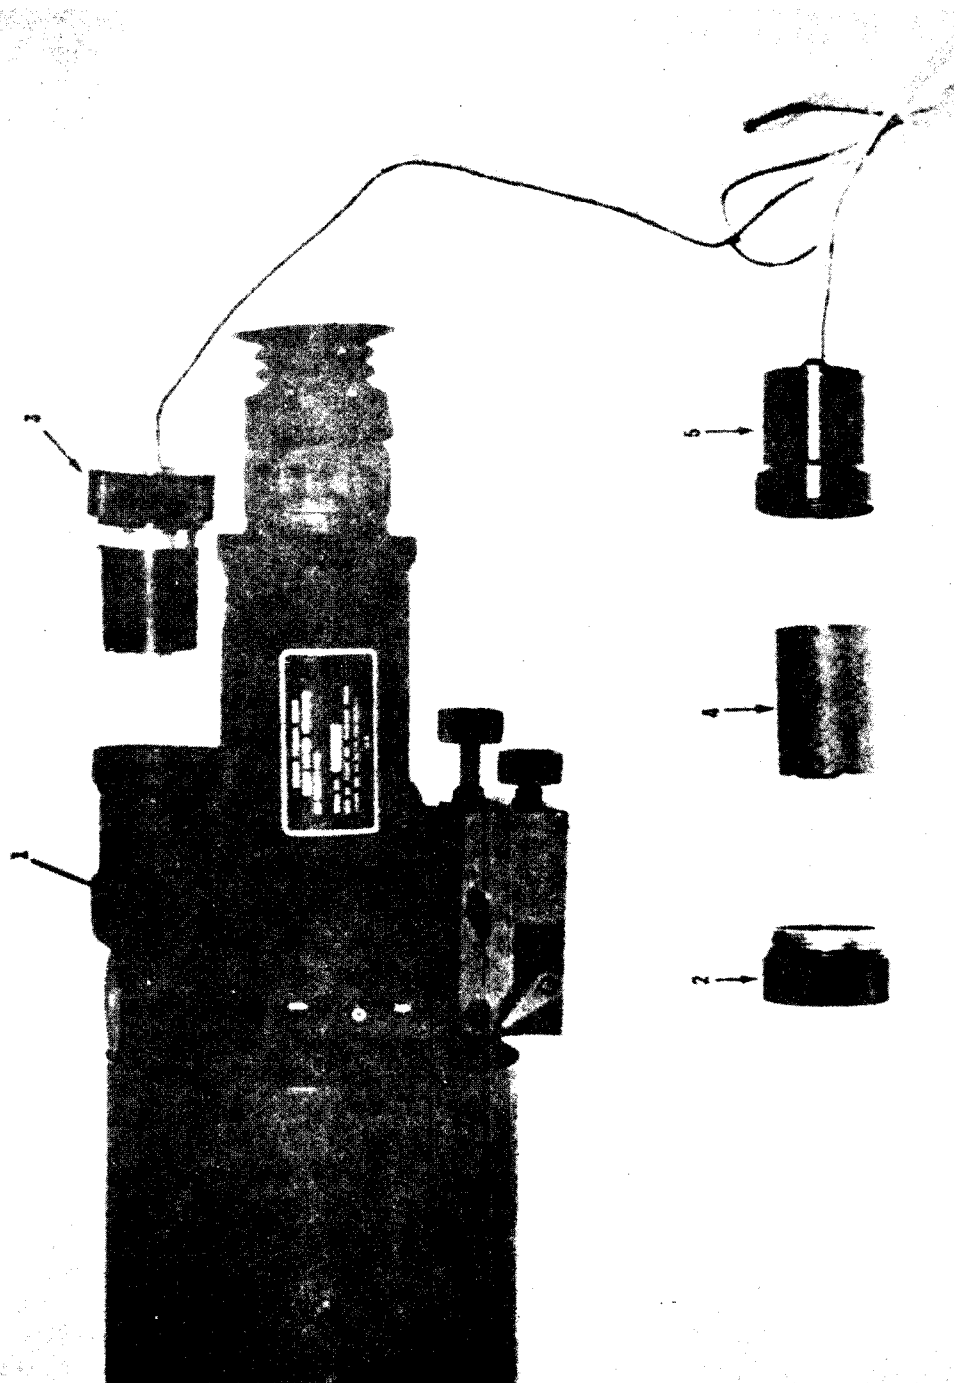

Figure 6. Low temperature adapter installation.
b. Low Temperature Adapter. If the temperature drops below -20° F., install the low temperature adapter in the following manner (fig 6):
- (1) Turn the rotary control switch (1) to the OFF position.
- (2) Unscrew the battery cap (2) and remove the battery.
- (3) Insert spacer (3) of the low temperature adapter into the battery housing and screw into place.
- (4) Place the battery (4) into the adapter battery case (5), positive end toward wiring as shown in figure 6. Screw the battery cap (2) to the adapter battery case (5).
- (5) Insert the adapter battery case into a pocket to keep the battery warm.